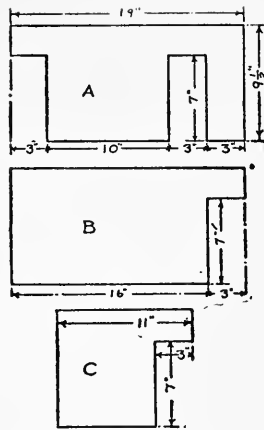

FIG. 68. FIRST-FLOOR PARTITIONS
**Make the Partitions *A*, *B*, and *C***, the shape and size shown in Fig. 68, and nail them to the places marked out for them on the floor.